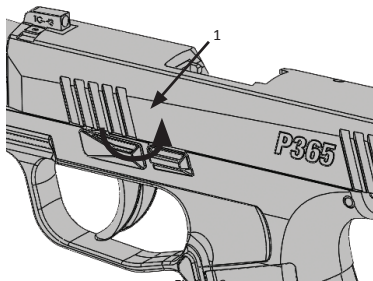

Figure 6
6. Rotate the takedown lever (Figure 6, Item 1) counter-clockwise until it stops.